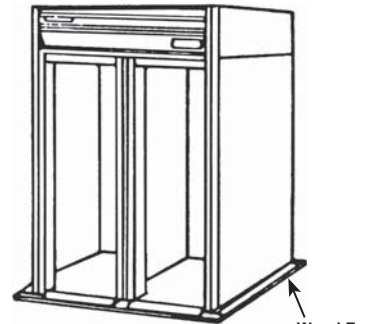

Figure 2
Step 3: Construct a wood form to act as a retainer for the grouting compound around the entire base of the cabinet. See **Figure 2** below. Pour the grout mixture at various intervals around the form to assure complete fill under the cabinet.